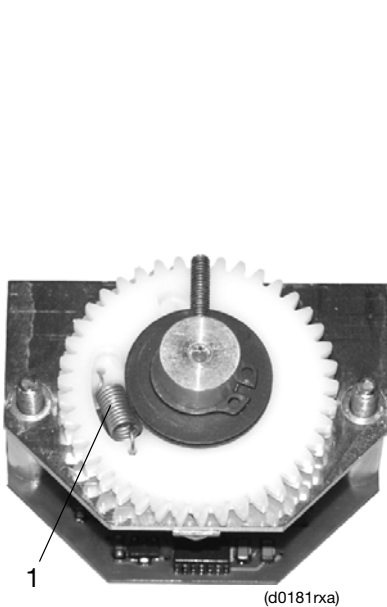

Fig. 44: Position sensor
- Set the stop pin to the center position, as shown in Figure 44.